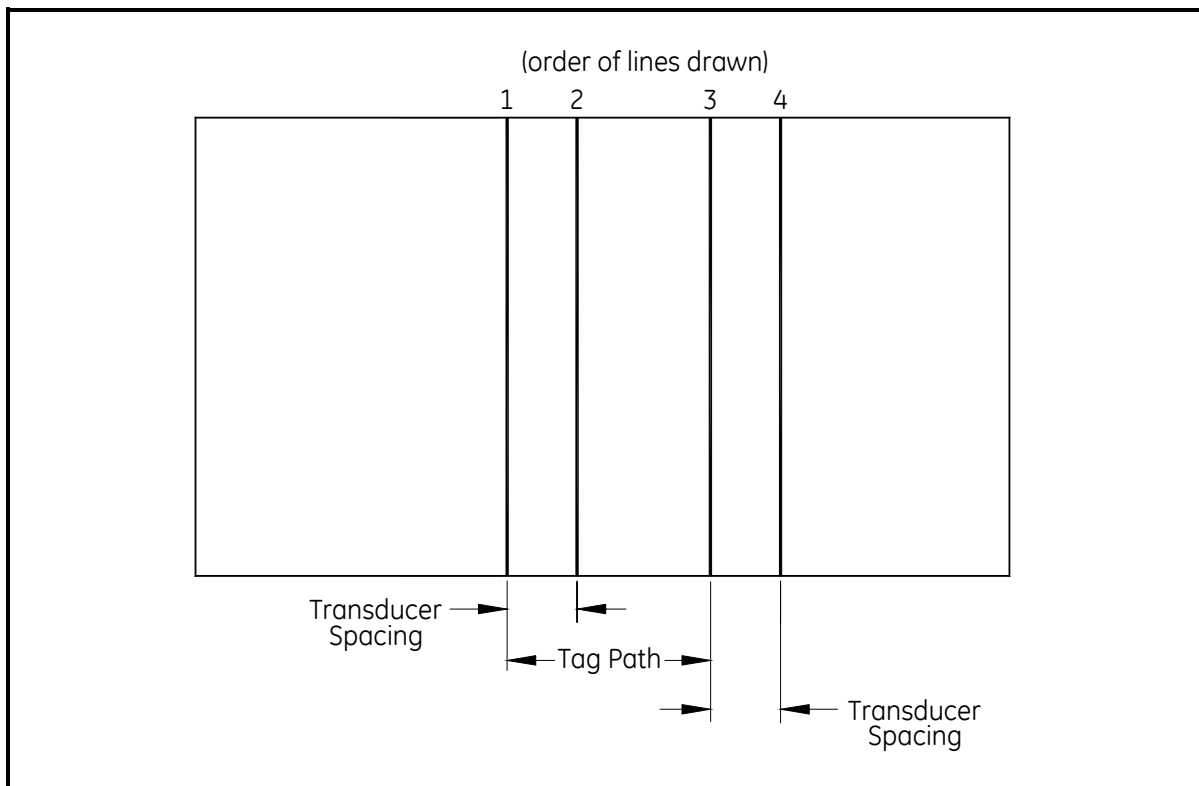
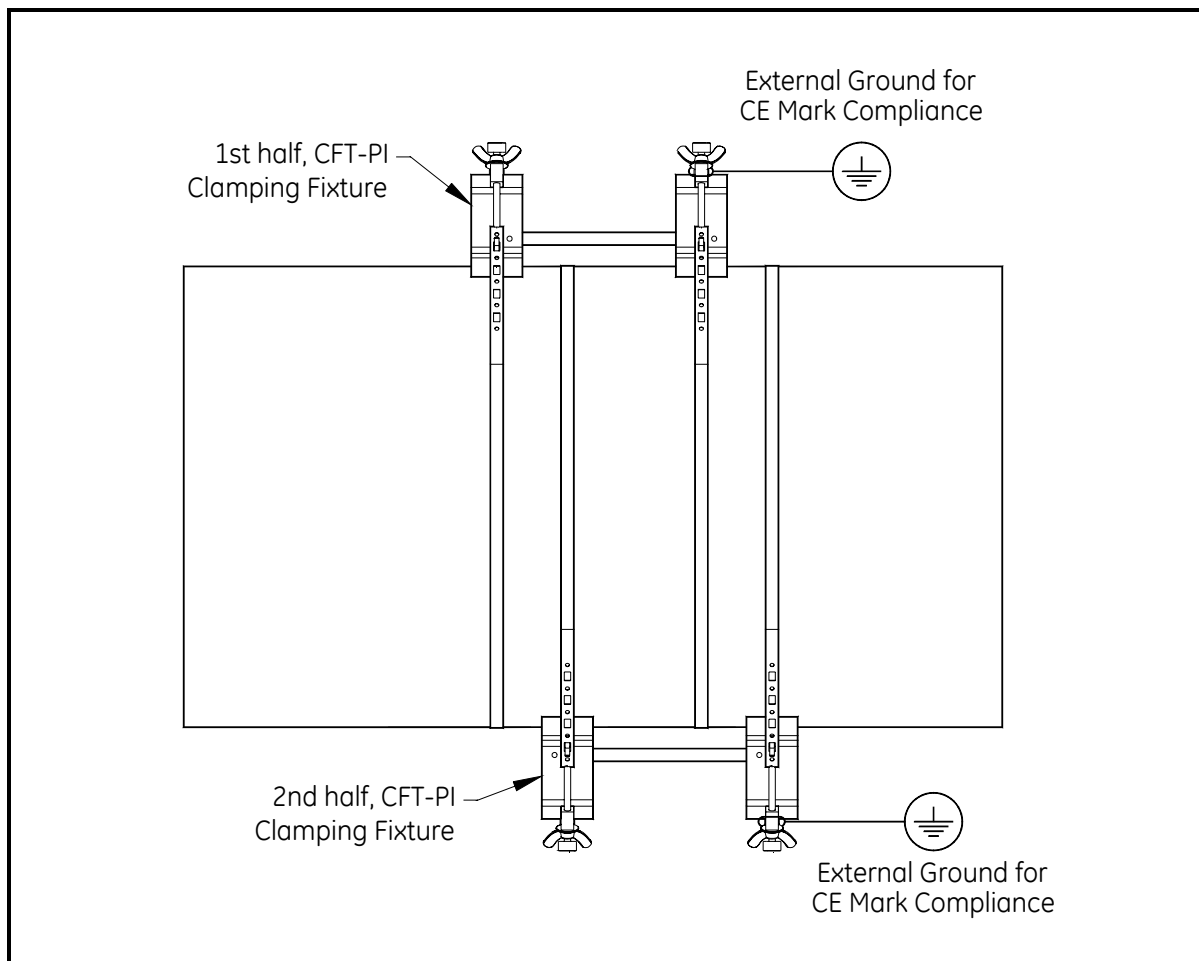

Figure 2-4: CFT-PI Clamping Fixture, Lines Drawn for Installation
Figure 2-5: CFT-PI Clamping Fixture, Order of Installation (top view of pipe)
Refer to Figure 2-4 below and Figure 2-5 on page 2-16 and mount the CFT-PI fixture on the pipe.
The pipe should now look like Figure 2-4 below.
6. Mount the other half of the fixture on the opposite side of the pipe. The clamping fixture should now look like Figure 2-5 below.
**Proper grounding of the clamping fixture (using the grounding lugs provided) is required, to prevent the possibility of electric shock and to meet CE Mark compliance (see Figure 2-5 below).**